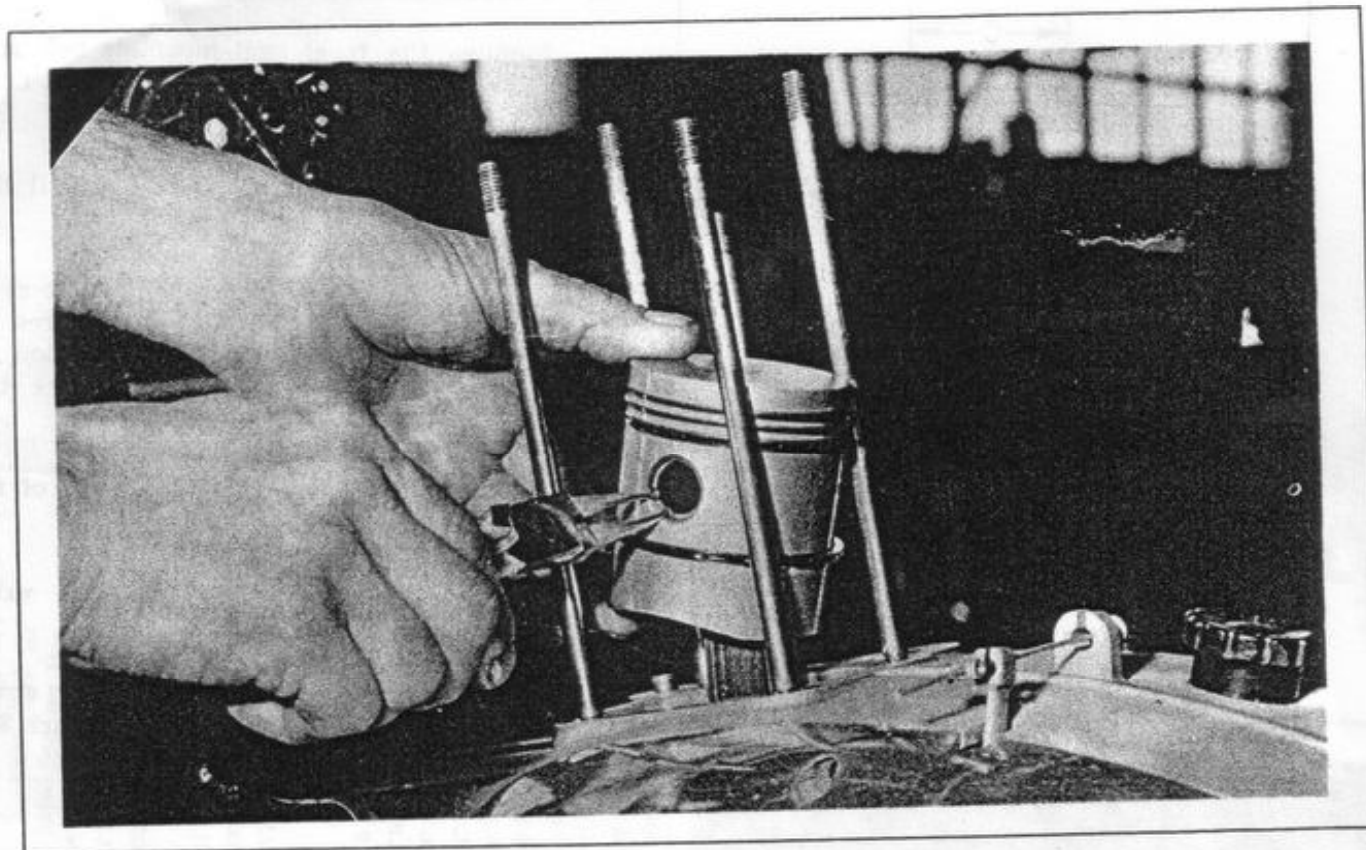

Figure 28.
10. Use retaining ring pliers Q to remove the retaining rings from each side of the piston pin (Figure 28).